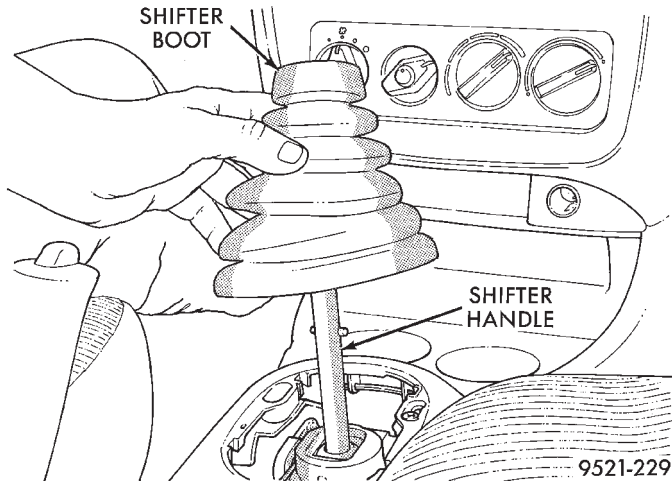

Fig. 9 Boot Removal
- (1) Remove shifter knob. Refer to gearshift knob removal.
- (2) Squeeze together the boot bezel at base. Pull up on boot and remove (Fig. 9).